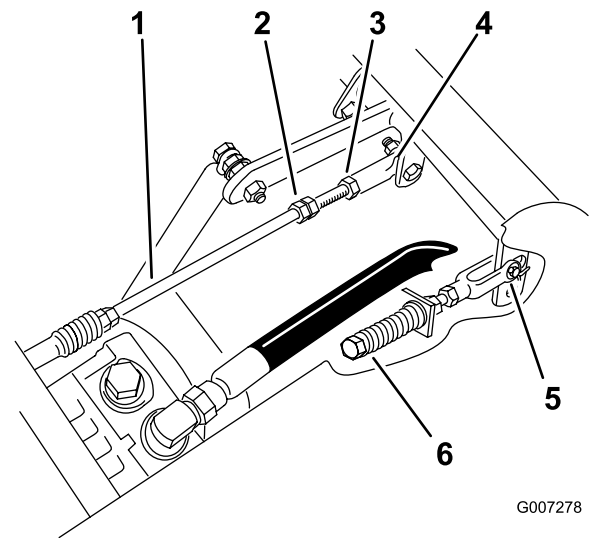

Figure 59
3. Adjust the pump rod length by rotating the double nuts on rod, in the appropriate direction, until the wheel is still or slightly creeping in reverse (Figure 59).
6. Tighten the locknut at the ball joint (Figure 59).